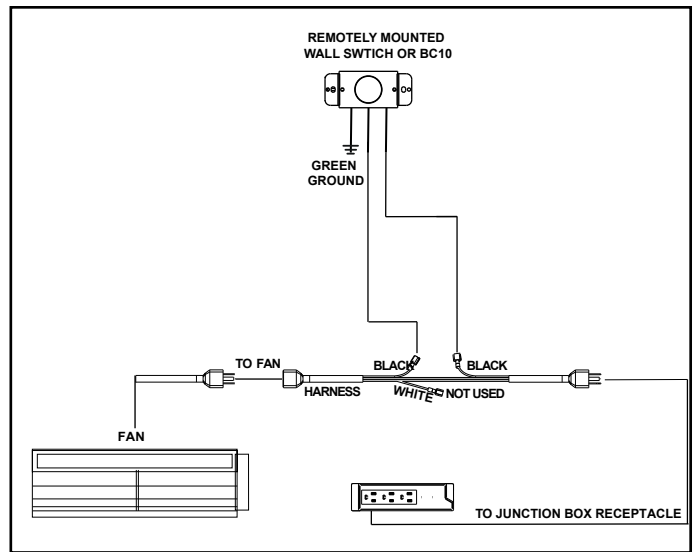

Figure 8.3 GFK21B or GFK4B Fan Kit and Remotely Mounted Switch or BC10
- The wires to the remotely mounted switch or BC10 must plug into the black female terminals on harness. See Figure 8.3.
- Harness shown in Figure 8.3 is available from your local dealer.